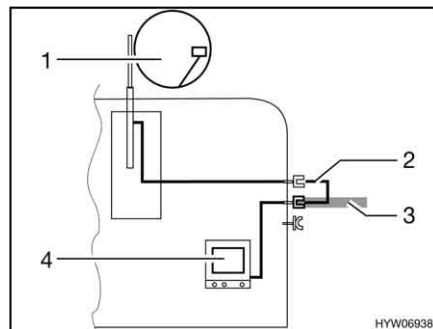

Fig. 129 TV inside the vehicle
- TV inside the vehicle (Fig. 129,4): Connection to roof antenna (Fig. 129,1) with connection cable (Fig. 129,2)
- TV inside the vehicle (Fig. 129,4): Connection to external antenna (Fig. 129,3)